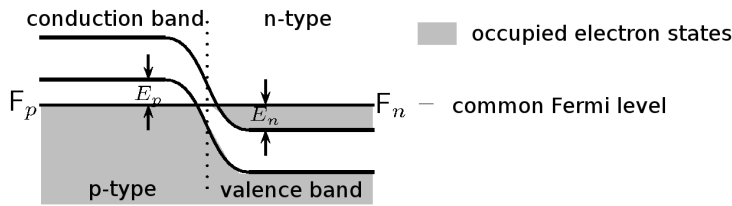

Figure 3: Quasi Fermi levels.
1. Draw the I(U) characteristic of the investigated tunnel diode. Determine the *peak* (U_p) and *valley* (U_v) voltages together with their uncertainties and the material the diode is made of knowing that typical valley voltages equal 0.7 V, 0.35 V and 0.45 V for gallium arsenide, germanium and silicon, respectively.
2. Determine energies of the E_n and E_p quasi Fermi levels (see fig. 3) from the following equations: